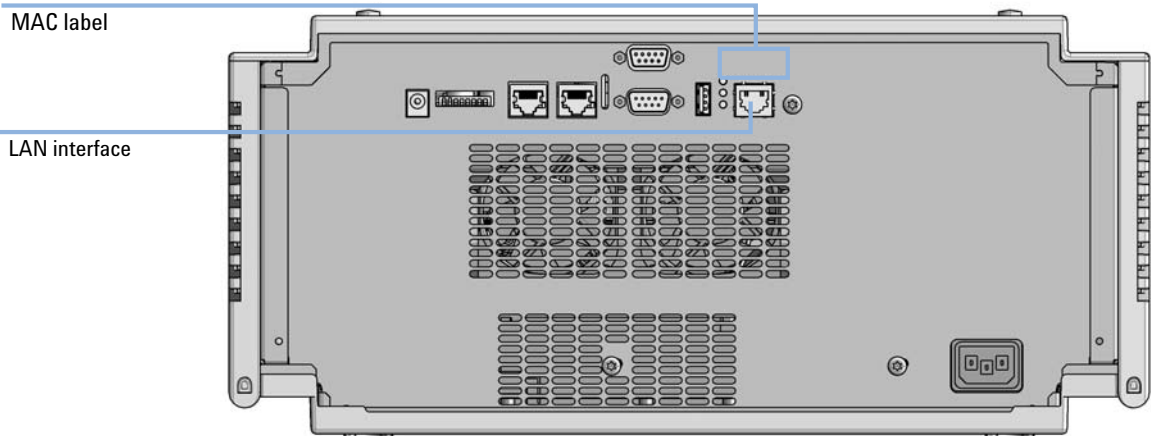

Figure 24 Location of LAN interfaces and MAC label
- 1 Note the MAC (Media Access Control) address for further reference. The MAC or hardware address of the LAN interfaces is a world wide unique identifier. No other network device will have the same hardware address. The MAC address can be found on a label at the rear of the module underneath the configuration switch (see Figure 24 on page 190).
- 2 Connect the instrument's LAN interface (see Figure 24 on page 190) to